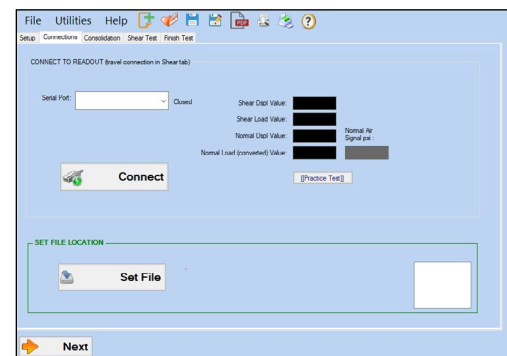

Figure 8: Connection tab
4. In the **Connections** tab (Figure 8), make sure the correct serial port is connected using the serial port dropdown menu. Click **Set File** in the **Connections** tab. Navigate to the desired file location, name the file, then click **Save**. Click the **Next** button to continue to the next tab.